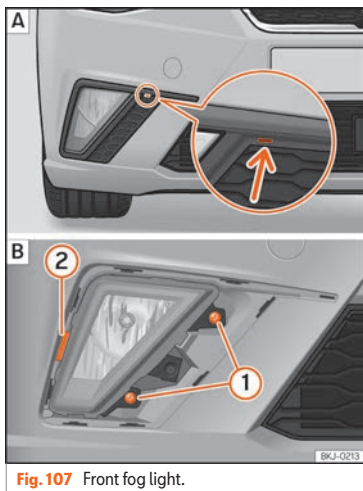

Fig. 107 Front fog light.
1. Lever the groove with a screwdriver » **Fig. 107 [A]** (arrow). Next, remove the clips located on the edge of the grill, levering them gently.